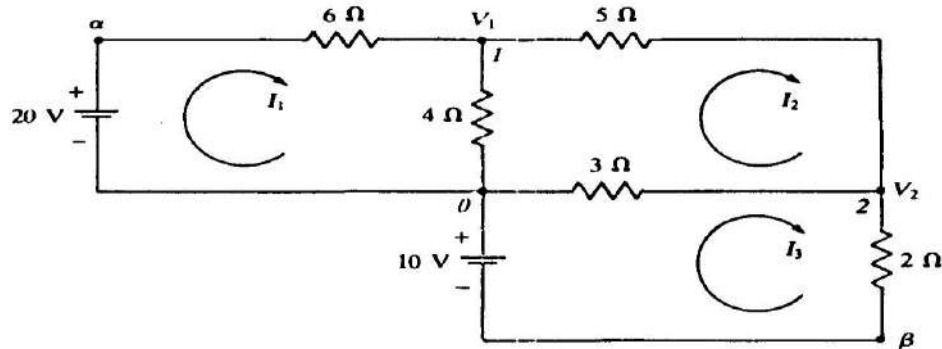

Figure: 1
b) Find the value of current I_1 , I_2 and I_3 from the circuit given below figure 1. [6+9]